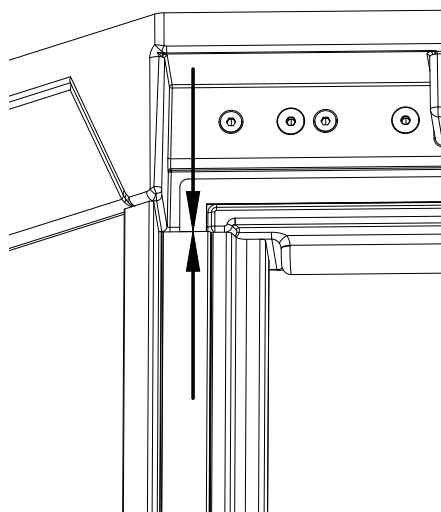
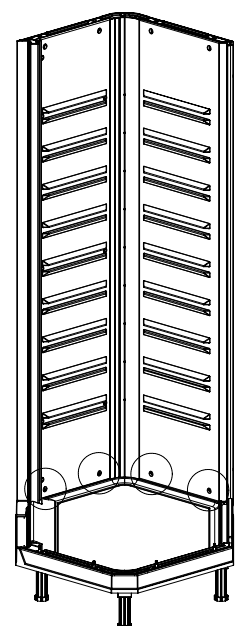

Fig. 8-3
Fig. 8-3-1
2. Lift the sidewall element on the floor element and use the M6 Hex key (3-1) to lock the panel together as seen in the picture with yellow rings until the pulley lock does not move, and to seal the internal D type gasket (figure 8-3-1). We recommend starting with the lock near the door opening. Try to make the green arrow as flush as possible with the red arrow in 4 corners of cabinet frame (figure 8-3).